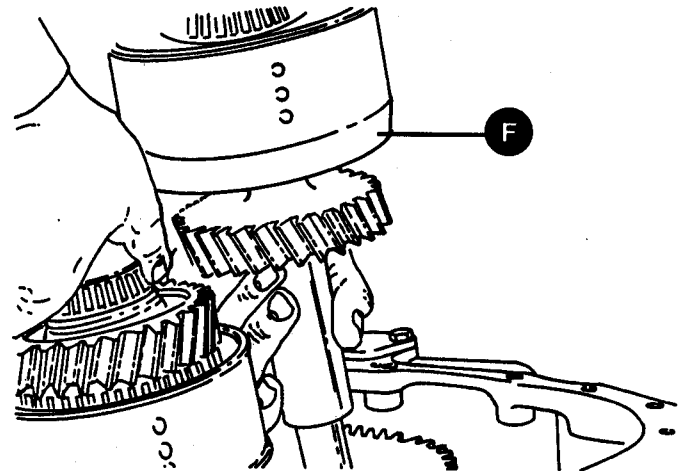

Figure 19.
12. Install the input clutch and the mainshaft (F, Figure 19) simultaneously into the front case as shown. Before fitting make sure that piston ring seals have been lightly greased, and both the input clutch and mainshaft taper roller bearings have been coated with high pressure grease.